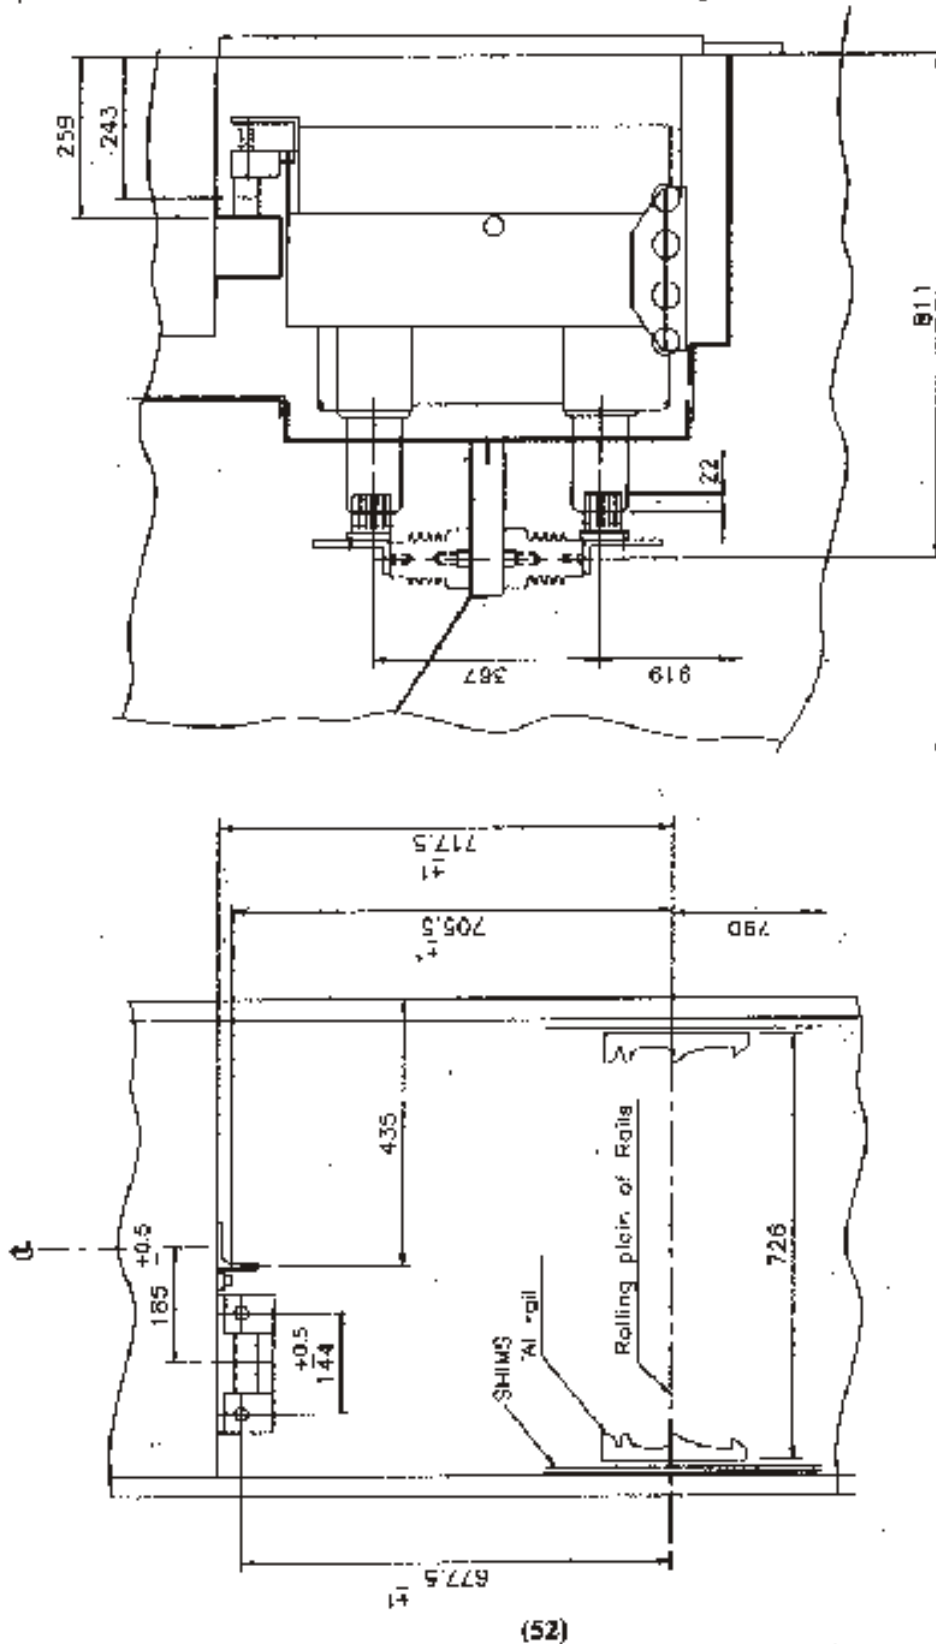

FIG 37
Important check dimensions are indicated in Fig. 37
- Breaker moves on rails in cubicle. If the dimension 726 (Refer fig. 37) is not maintained, or has been disturbed during transport, movement can become hard. This can be corrected by adding or removing shims below the rail.
Check the demension of switch assembly from rolling plane as shown in Fig.37. If required, this can be corrected by adjusting set screw on switch assembly. If switch still does not work, the height of actuator on the breaker is to be adjusted.